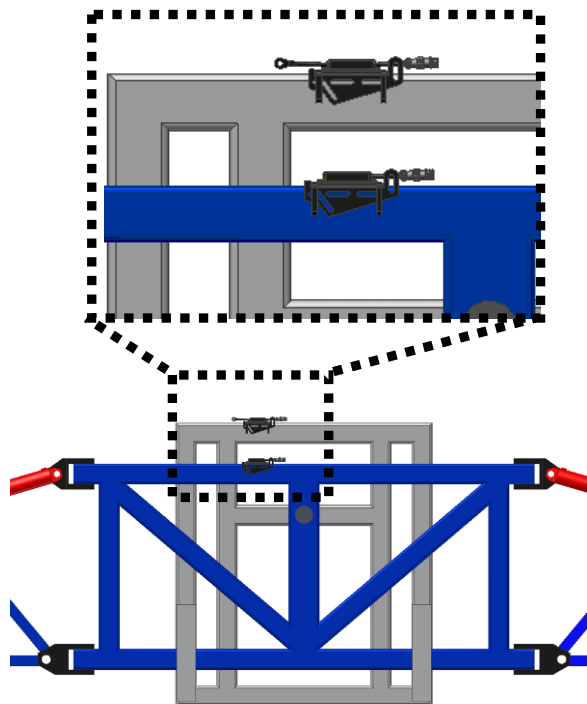

Figure 14: Mounting Guidelines for Center Pivot Sprayers
When mounting the roll sensors use the following guidelines and refer to **Figure 14**.
a) The smaller the distance between **A** and **B** in **Figure 14**, the better the performance will be.